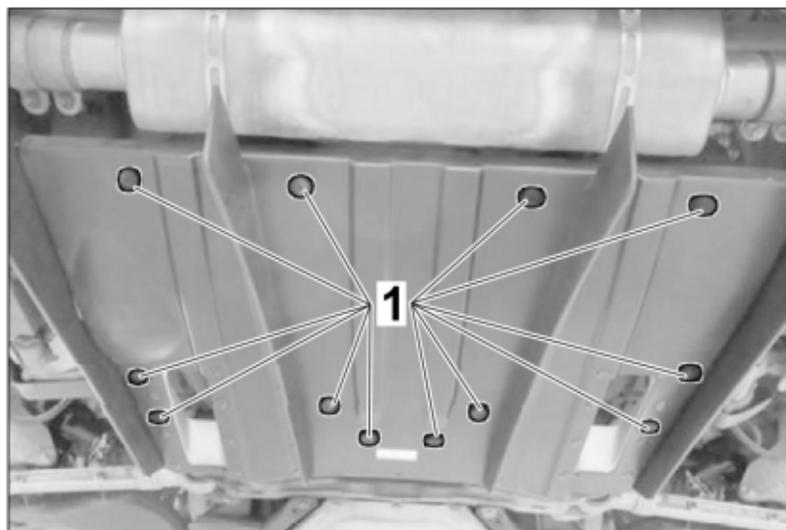

Figure 41
- 1. – Install underbody (rear) with previous screw (12 pcs., ⇒ Figure 41 -1-. **Screw: Tightening torque 10 Nm (7.38 ft-lb)**